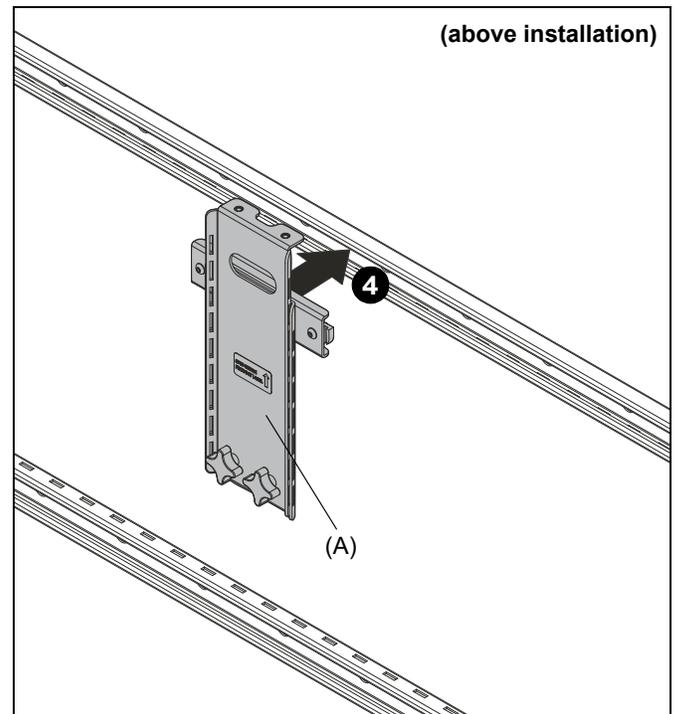

Figure 4
4. Install height-adjustable bracket (A) onto AS3LD mount at desired mounting position. (See Figure 4)